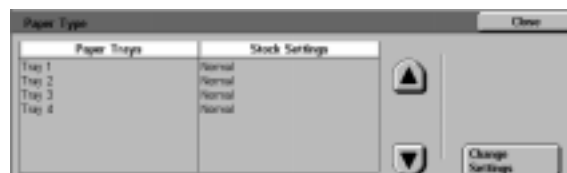

Figure 7: Paper Type screen
- 2 Touch the **Paper Type** icon to display the Paper Type screen, as illustrated in Figure 7.